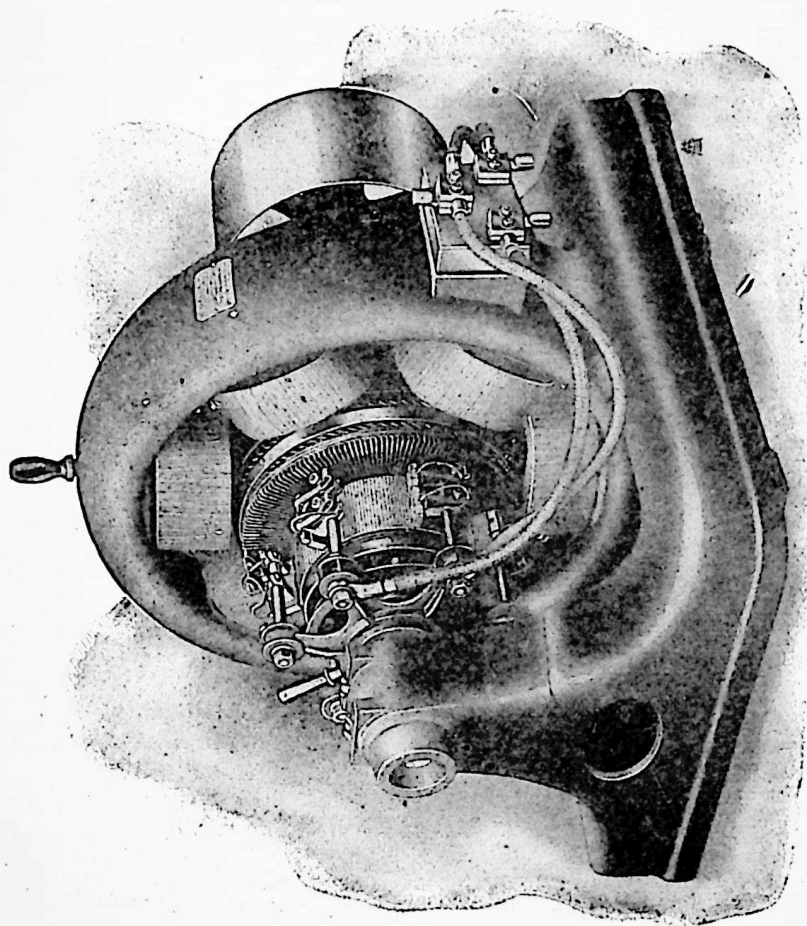
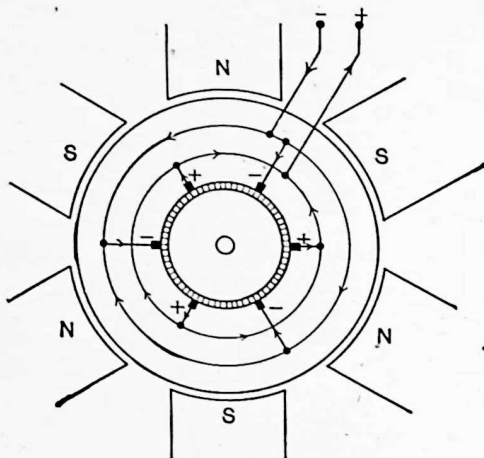

Fig. 130. Fort Wayne six-pole generator.
FIG. 131. Brush connection of the six-pole generator of FIG. 130.
**64. Number of Brushes.** A generator usually has the same number of sets of brushes as it has poles, not counting commutating poles. Note that the generator in Fig. 130 has six poles and six sets of brushes. Since a machine has but two terminals which are connected to the brushes, several of these sets of brushes must be joined together. Note, in Fig. 131, that every other brush is (+) and that all the (+) brushes are joined together in parallel and brought by leads to the (+) terminal. The remaining sets of brushes are (-) and are joined in parallel and lead to the (-) terminal.